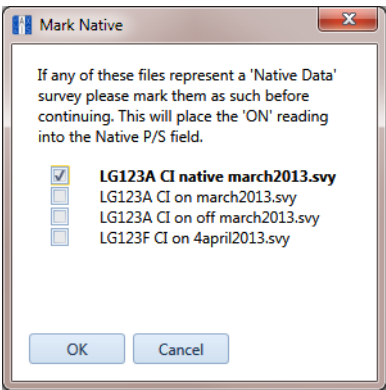

Figure 13-21. Mark Native
- 7 If you are importing a survey file with *Native Data*, select the native survey file when the *Mark Native* dialog box opens. Then click **OK** to continue the import process (Figure 13-21).